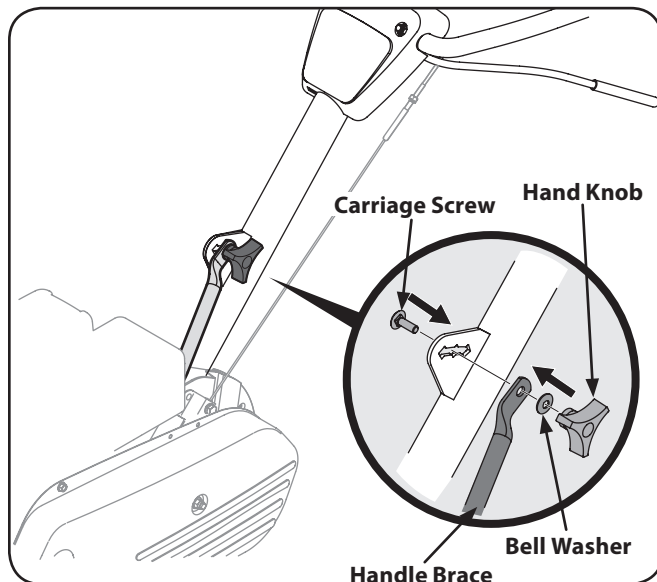

Figure 3-4
6. Tighten the bolt securely after securing the handle brace as seen in Fig. 3-4.